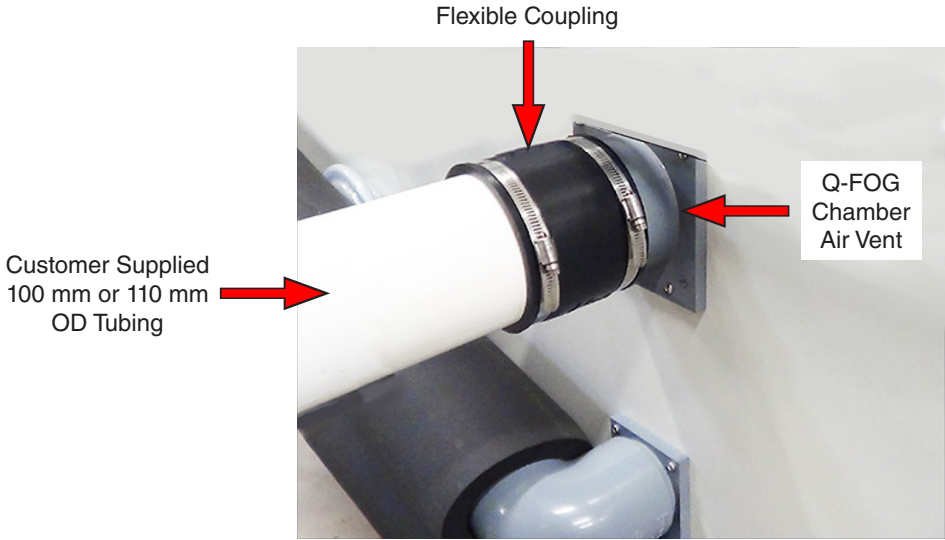
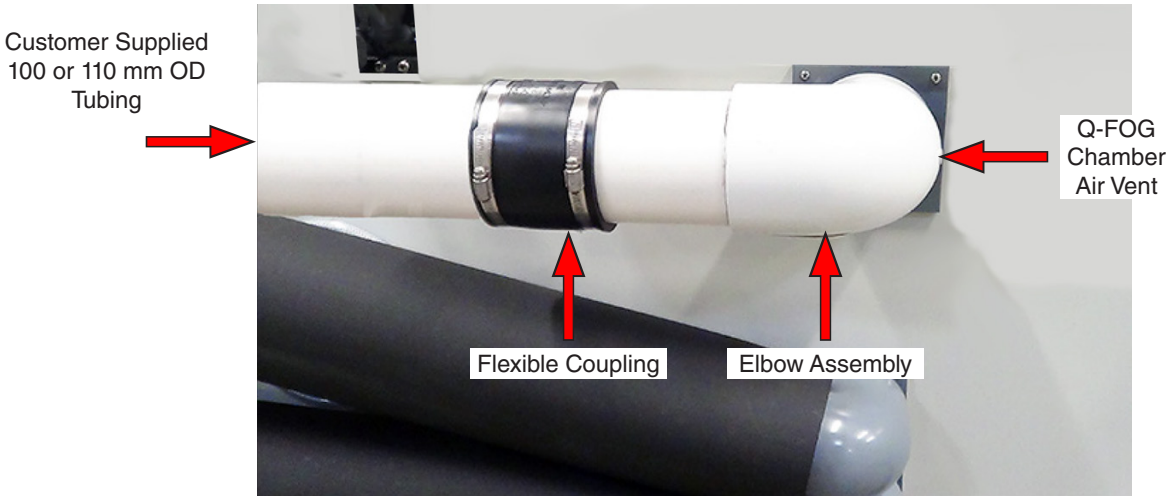

Figure 6.8b: Metric kit straight-out venting installation.
Figure 6.8d: Metric kit horizontal venting installation.
- Optionally, for connection to an exhaust system having 100 or 110 mm outside diameter tubing, a metric installation kit (part number F-70099-K) is available. See Figure 6.8b through Figure 6.8d for various metric installation configurations.